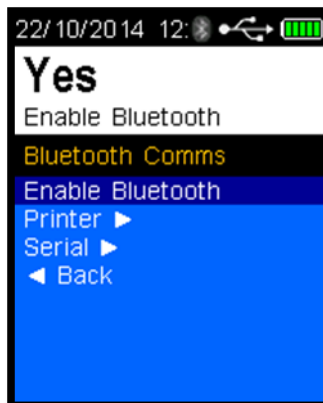

Figure 81 Enable Bluetooth
- Press the test key to enable Bluetooth. The Bluetooth logo should now appear on the screen (Refer Figure 81) to the right side of time display.